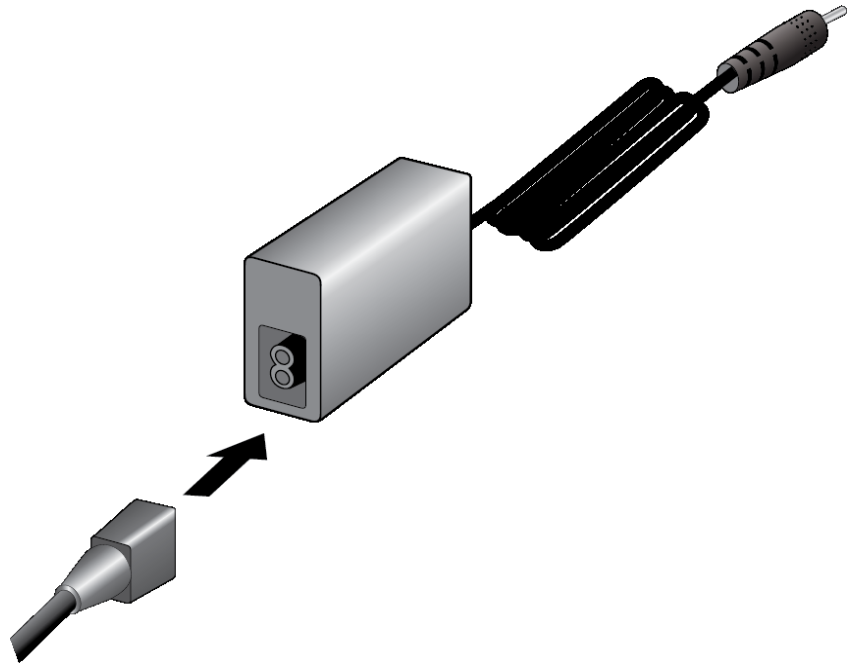

Figure 27. Connecting the AC Power Cord to the PWRADP-01 Power Adapter
1. If you purchased the PWRADP-01 Power Adapter, connect the AC power cord to the power adapter. Refer to Figure 27.